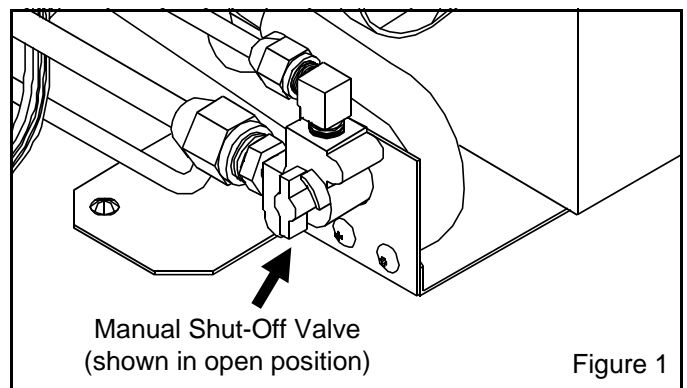

Figure 1
2. Set the Energy Selector Switch (A) to the GAS position.
3. Set the Gas Control Selector (D) to the HIGH COOL position.
4. Ensure that the manual shut-off valve is open. See location in Figure 1.
5. While pushing the Gas Control Selector switch (D) in, press the spark ignitor push-button (B) in, several times in rapid succession (A click should be heard each time it is depressed.). The burner should light; however, continue to hold the Gas Control Selector (D) in for another 15 seconds before releasing.